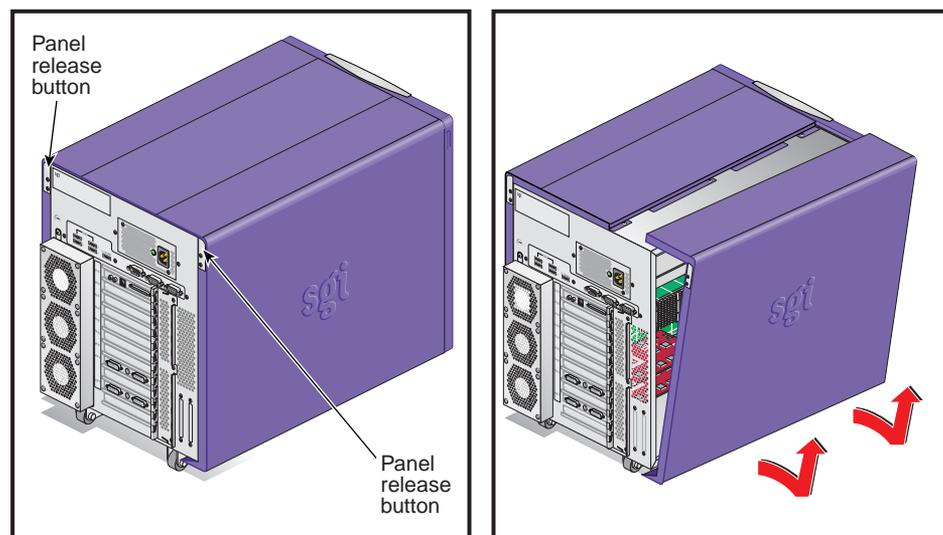

Figure 3-3 Removing the Enclosure Side Panel
1. Press the panel release button on the rear of the enclosure. Then swing the top edge of the panel away from the enclosure (see Figure 3-3).
2. Lift the panel until the hooks on the bottom edge clear the lip on the base of the enclosure. Then swing the bottom edge of the panel away from the enclosure and place it in a safe location (see Figure 3-3).